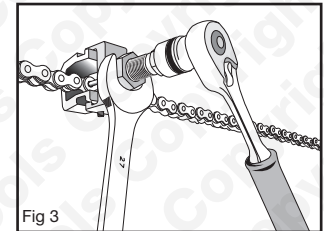

Fig 3
- Use a 27mm spanner to hold the tool steady and turn the force screw of the pin holder **(A)** with a 19mm socket and ratchet handle. Turn clockwise to push out the link pin. **Fig. 3 and 4.**